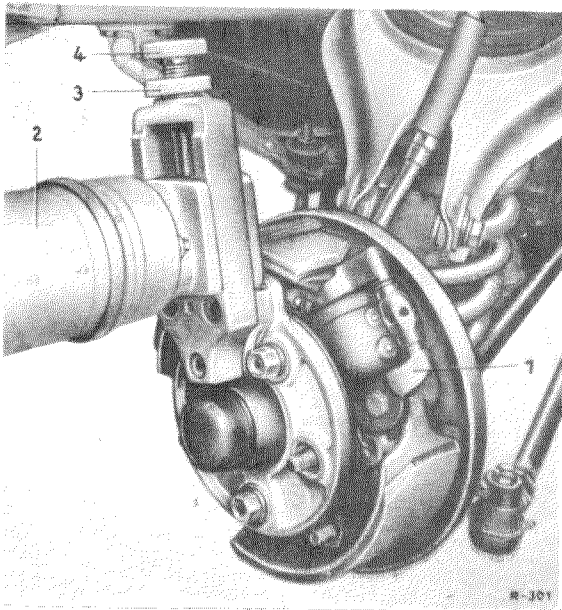

Fig. 42 — 11/2
2. On the front axle install two Clamps (1) 180 589 01 63 on the two brake shoes by means of the hexagon screw of the anchor pin (Fig. 42 — 11/2).